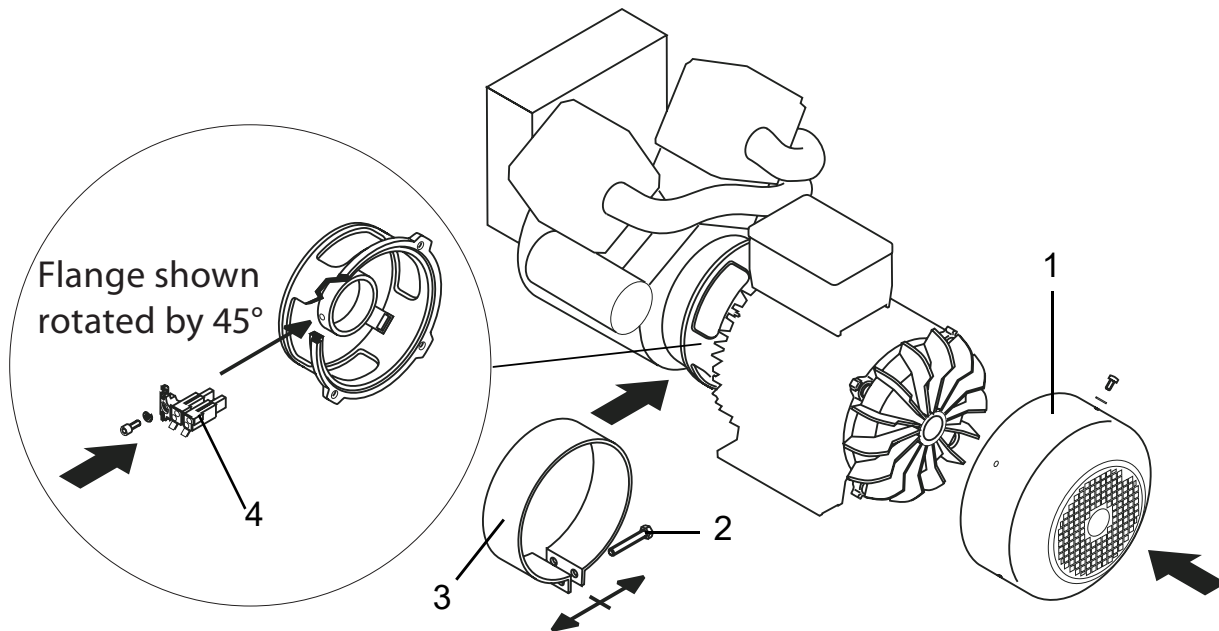

Fig. 9 Installation of carbon brush holder
- ⇒ **Fig. 9, Installation of carbon brush holder, page 44**